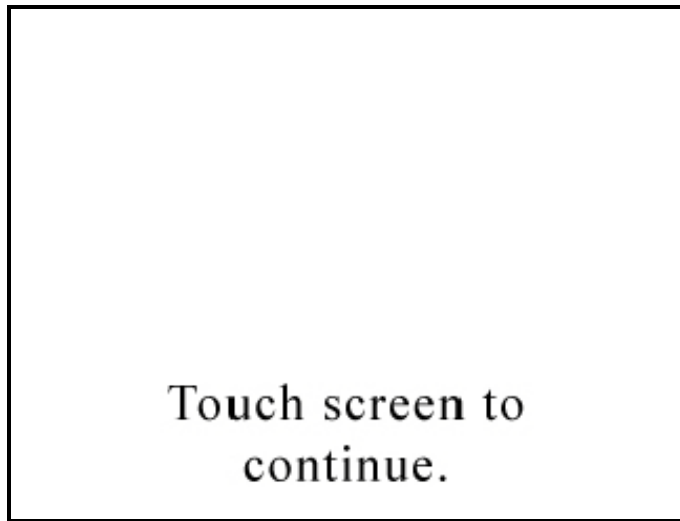

Figure 4-34 Calibration Saved Screen
- The unit will save the settings and display the MAIN screen. See Figure 4-34.